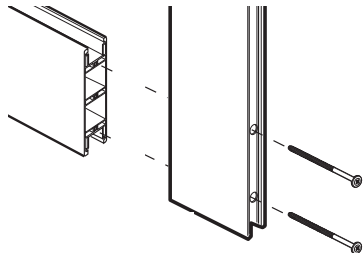

Figure 7A
Place 2 of the 4" screws (Z) into the 2 holes in the outside of the channel. Make sure they are fully inserted. See Figure 7A & 7B.